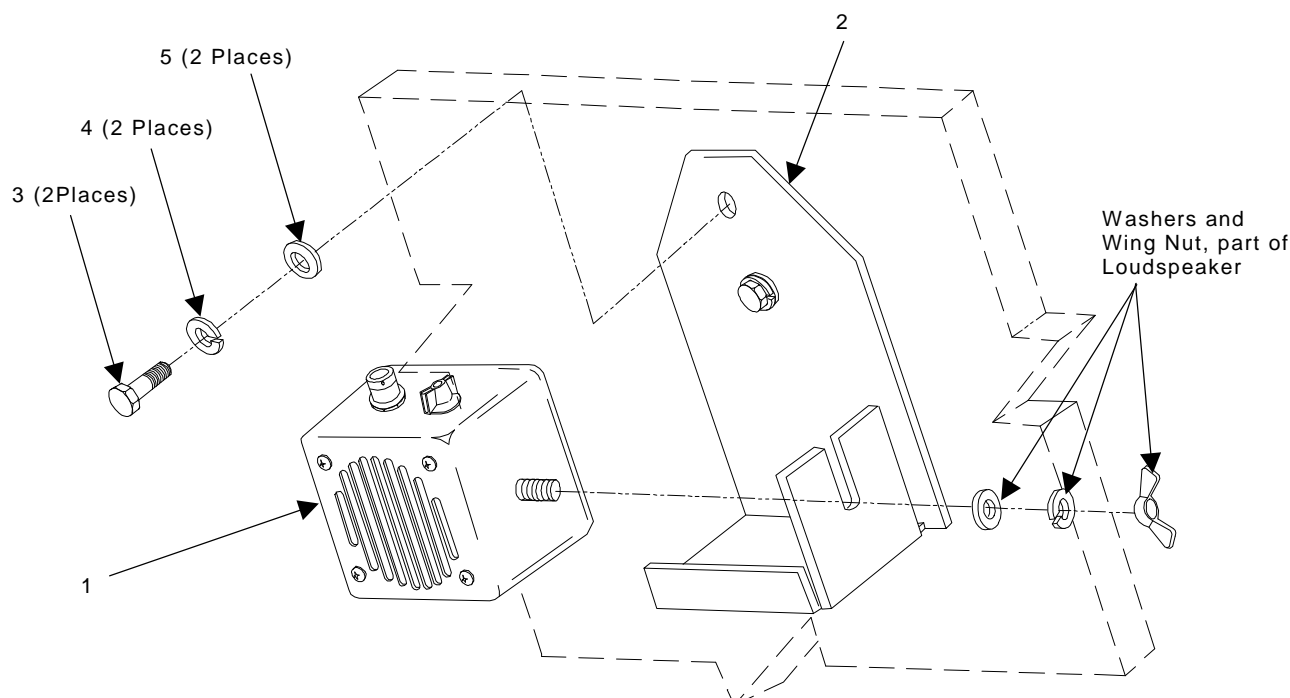

Figure 4-10. Loudspeaker Bracket Installation
4.6 LOUDSPEAKER (LS) INSTALLATION
Install and secure the Loudspeaker Bracket (2) on the roadside hull wall in the sequence(s) shown in Figure 4-10 using the parts listed in Table 4-7 and the following tools: